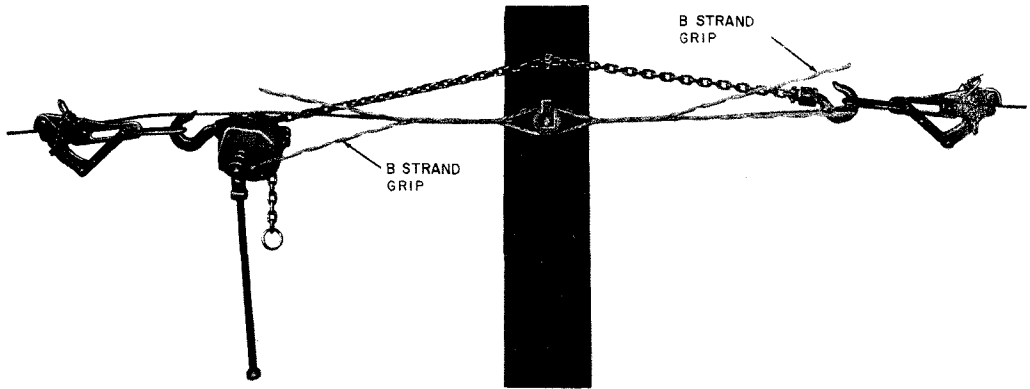
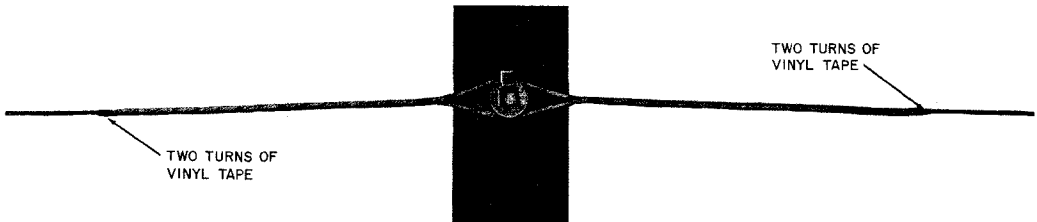

Fig. 11—B Strand Grips Partially Installed
Fig. 12—Completed Installation
3.08 Figure 11 shows the B strand grips partially installed and Fig. 12 illustrates the completed installation.